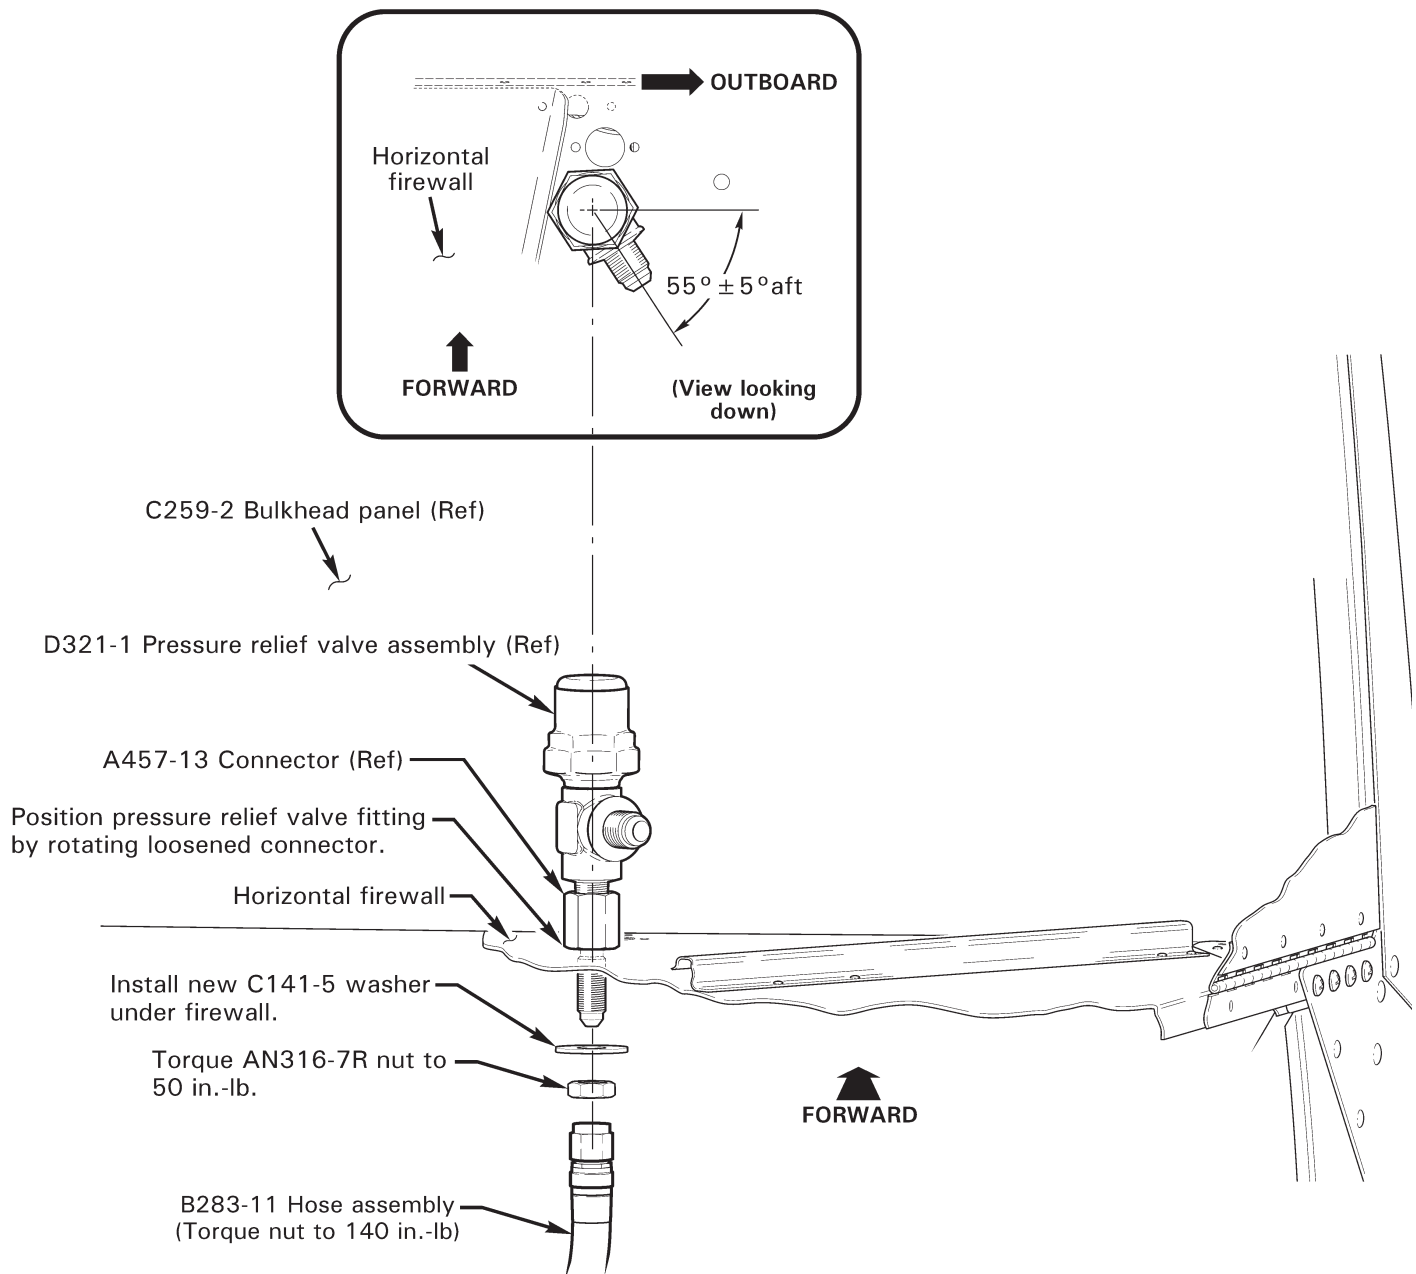

FIGURE 2 Pressure relief valve position
6. R44 II only: Refer to Figure 2. Disconnect B283-11 hose assembly at connector under horizontal firewall. Do not loosen relief valve at connector. Remove AN316-7R nut and NAS1149F0732P washer; retain nut & discard washer. Position relief valve (at loosened connector) so relief valve fitting points $55^{\circ} \pm 5^{\circ}$ aft; install C141-5 washer (provided) & retained nut and special torque AN316-7R nut to 150 in.-lb. Connect B283-11 hose assembly, special torque to 140 in.-lb, and torque stripe both nuts per MM Figure 2-1.